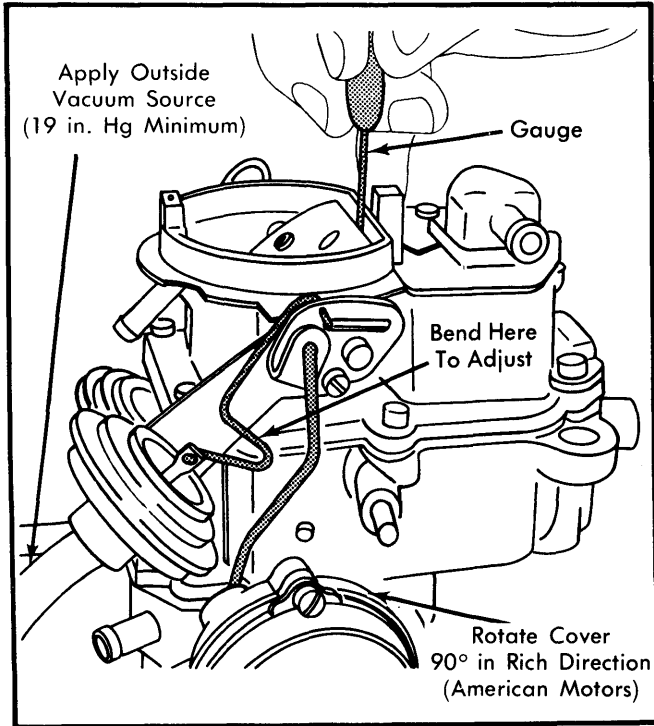

Fig. 8 Adjusting Choke Vacuum Break (Initial Choke Valve Clearance)
1) On American Motors models, remove choke coil cover retaining screws. Rotate choke coil cover 90° in the "Rich" direction. Install and tighten 1 slot-type retaining screw. On all models, place fast idle speed screw on 2nd step of fast idle cam. See Fig. 8.